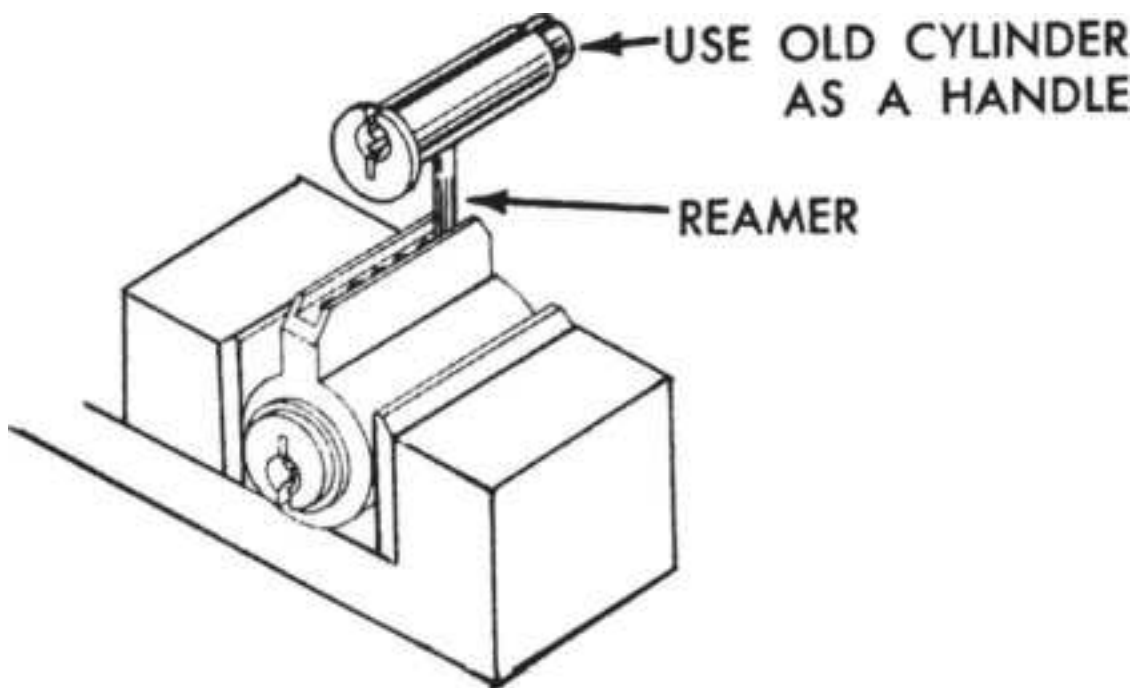

**Figure 9.24** Ream the pin holes through the shell, master ring, and plug.
3. Ream pin holes through the shell, master ring, and plug (Fig. 9.24 ).